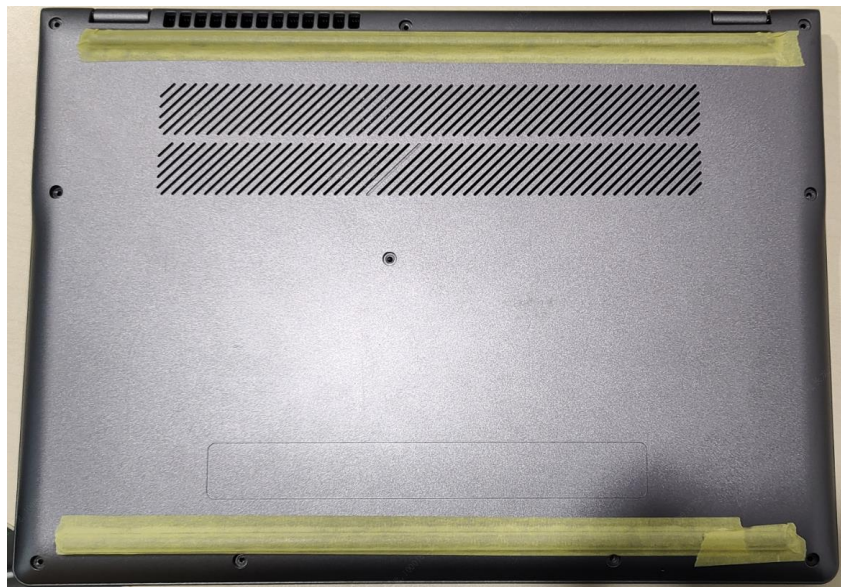

Figure 3-90. Replacing the Base Cover
2. Press downward on the system to engage the tabs. Make sure all the tabs are fully engaged (Figure 3-90).